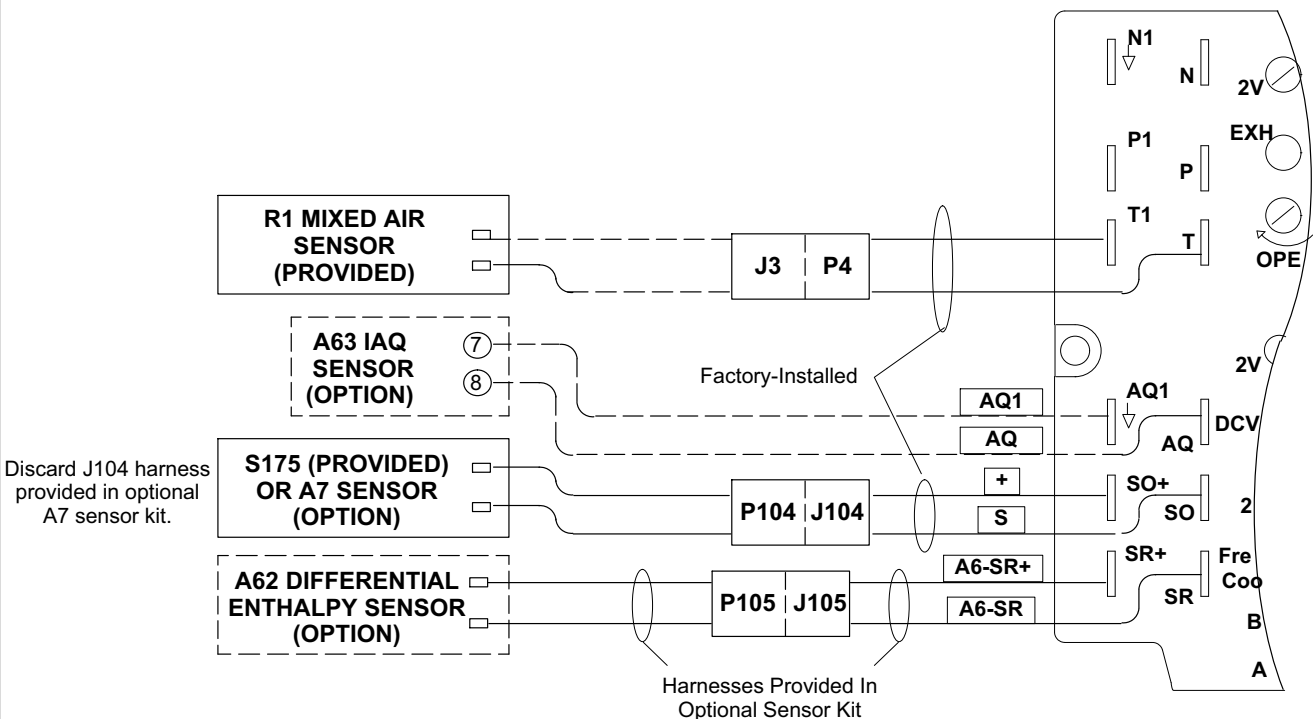

FIGURE 10
- 1- Connect J3 harness wires marked "R1" to sensor installed in blower section. See figure 10.
An optional return air sensible sensor (RT27) can be added for differential sensible sensing. The sensible configuration can be replaced by temperature and humidity (enthalpy) sensor (A7/A62). See figure 10.